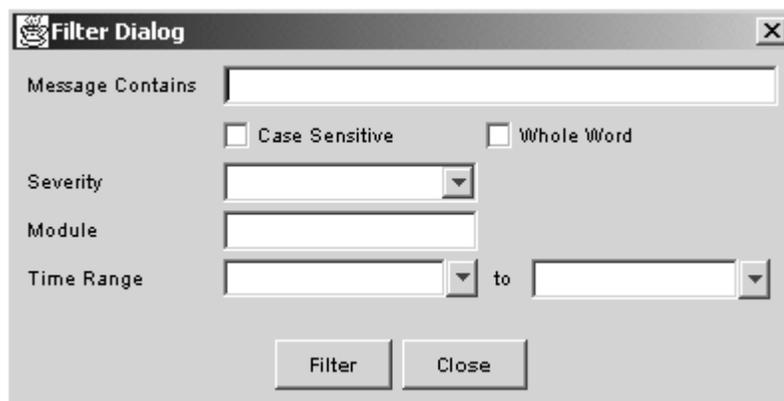

Figure 16: Filter dialog box
Filter	Click to choose which aspects you want to have shown in the FM Log. This keeps the log from getting crowded with unwanted information. The Filter dialog box is shown in Figure 16.
2. Click **Filter** at the bottom of the dialog box. The **Filter Dialog** box displays, as shown in Figure 16.